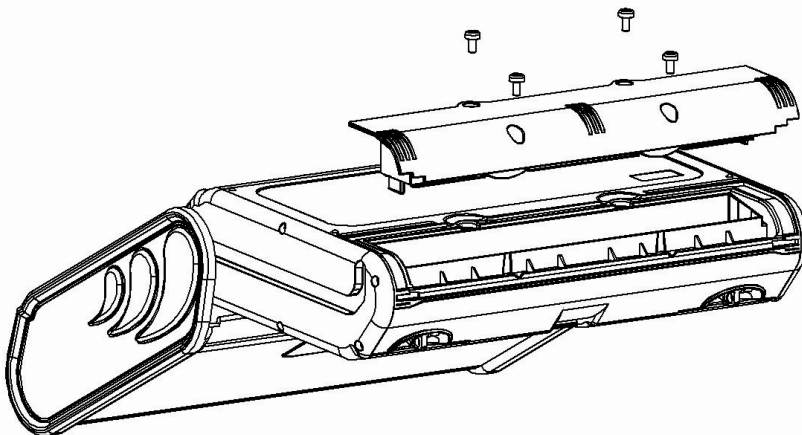

Fig. 7.1. Replacing the battery pack
- remove the four screws of the battery compartment (in the lower part of the casing), **Fig. 7.1**),